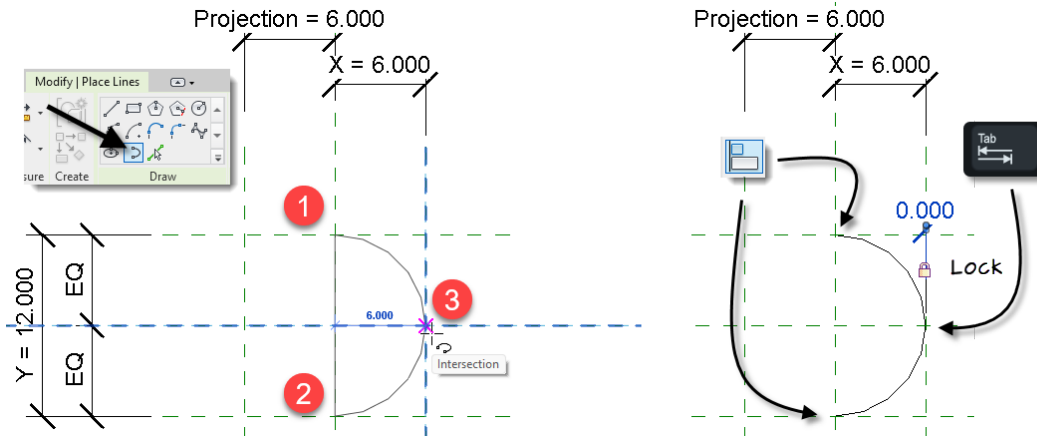

Figure 41—Create an elliptical arc and constrain it to the reference planes
- ⇒ Make the minor axis to the right by snapping to the intersection of Center (Front/Back) and X Max (see the left side of Figure 41).
- ⇒ Add a dimension between the X Max reference plane and the endpoint of the elliptical arc. Use the TAB key to assist (see the right side of Figure 41).